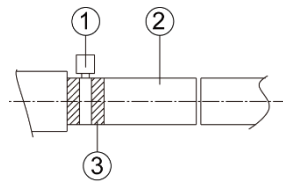
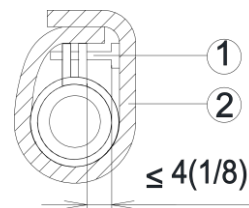

Fig 4.3.2
Fig 4.3.3
- (1) Insert the drain hose into the drain hole and tighten it with tapes, as shown in Fig 4.3.2.
- (2) Tighten the pipe clamp, with the distance between screw nut and hose smaller than 4mm (1/8in.).
- ① metal clamp(accessory)
- ② drain hose(accessory)
- (3) Use sealing plate to make the pipe clamp and hose insulated, as shown in Fig.4.3.3.
- ② thermal sponge(accessory)